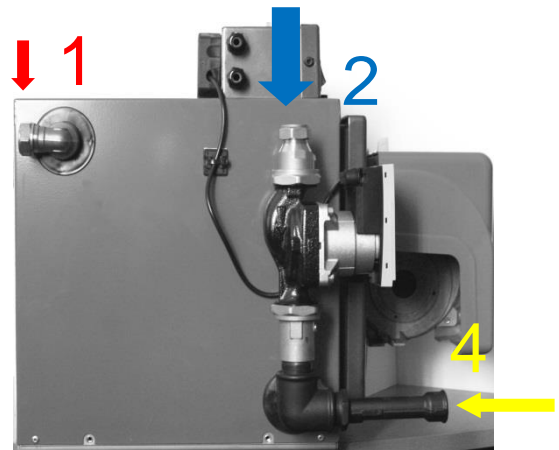

Fig 1
### HR central heating (fig 1)
3. Assemble the separately supplied filler tap and drain combination at point 4 (see fig 1).